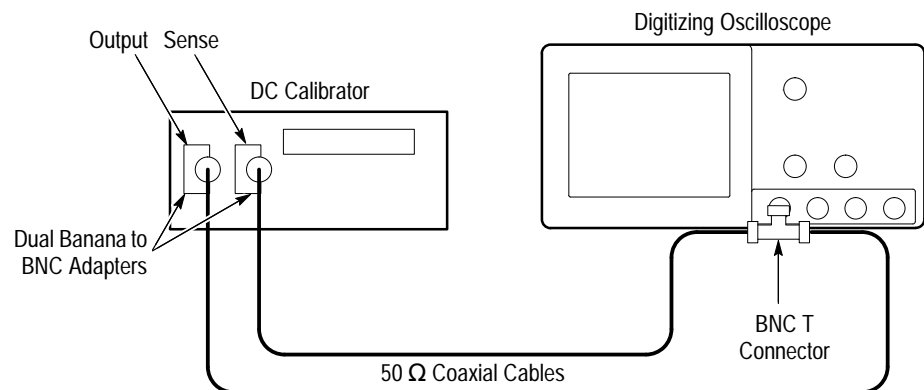

Figure 1–12: Initial Test Hookup
- Connect the Sense output of the generator, through a second dual-banana connector followed by a 50  $\Omega$  precision coaxial cable, to the other side of the BNC T connector. Now connect the BNC T connector to **CH 1** (see Figure 1–12).